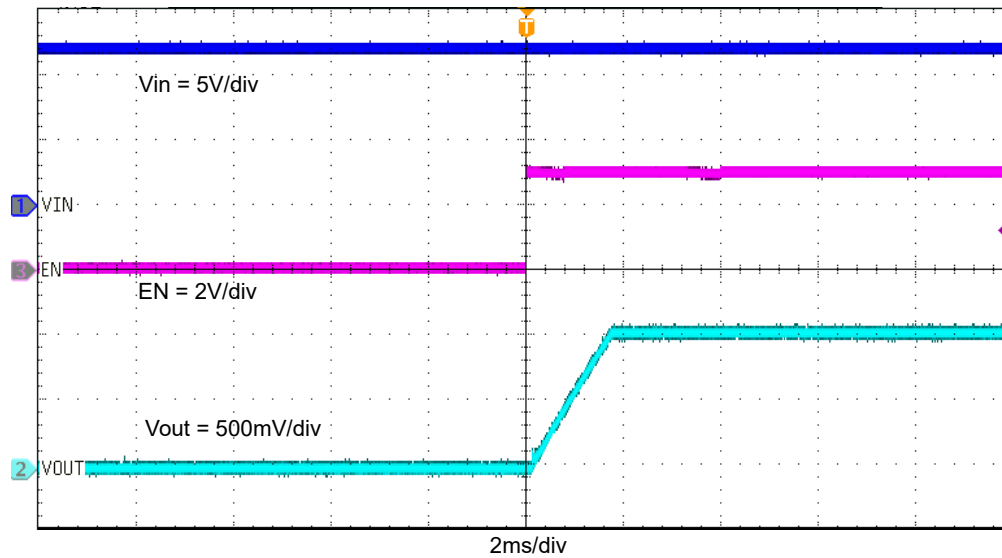

Figure 4-11. TPS563242EVM Start-Up Relative to EN
Figure 4-11 shows the TPS563242EVM start-up waveform relative to enable (EN). The load is 3A.